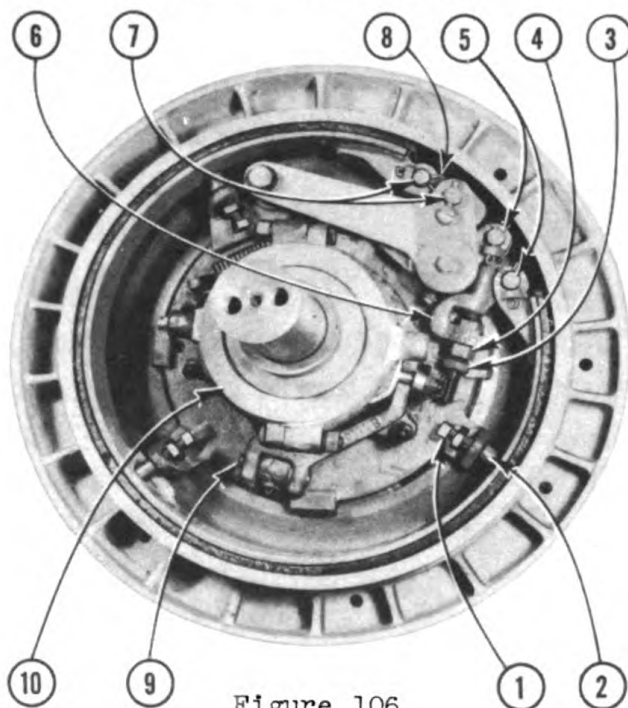

Figure 106
Remove the capscrews, lock plate and keeper plate (4) at the gear end of the shaft. Drive or pull off gear (3) and remove gear key. Pull bearing retainer off shaft with a bar and bolts as described on Page (133). Remove pin (9) and slide clutch sleeve assembly (10) Figure 106 off shaft. Pull right hand clutch spider (5) with rods screwed in tapped holes as described on page (133). Remove clutch spider key (6). Keep spacer (7) and spider (5) together and mark them for the right hand end of the shaft. The right hand drum (8) can now be pulled off with bar and rods in the same manner as described on Page (133). Remove the shaft and bearing cover (9) on the left end of the shaft. Remove capscrews, lock plate and keeper plate (10). Pull off pillow block (2) and bearing retainer (11) as a unit. Remove pin and slide clutch sleeve assembly off the shaft. Pull left hand clutch spider (12) with rods screwed in to tapped holes in the clutch spider and a bar as described on Page (133). Spacer (13) will come off with the clutch spider. Keep spider (12) and spacer (13) together, marking them for the left hand end of the shaft. The left hand drum (14) can now be pulled off the shaft in the same manner as the right hand drum was pulled or the shaft can be driven out of the drum by bumping the left end of the shaft with a heavy block. Drive the ball bearings out of the bearing retainers and drum, using a hardwood block or brass driving rod.